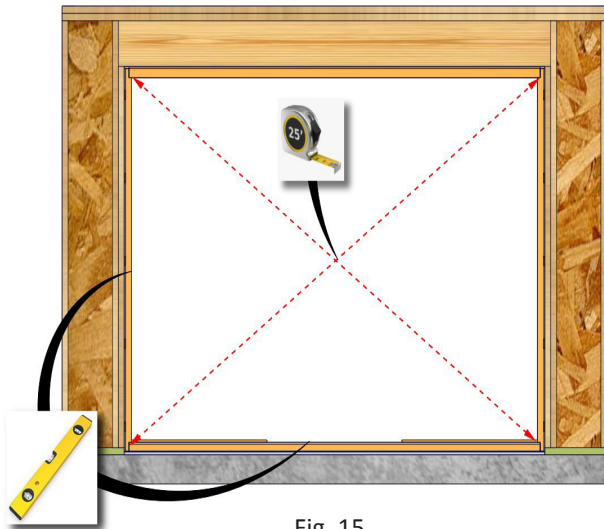

Fig. 15
1. Level at the sill and plumb the frame. Shim under the frame to bring to level in necessary. (Fig. 15)
2. From the interior, square the frame in the opening by installing shims between the jambs and framing 4" from the head, and sill. Measure the diagonals and adjust shims until the unit is square in the opening. (Fig. 15)